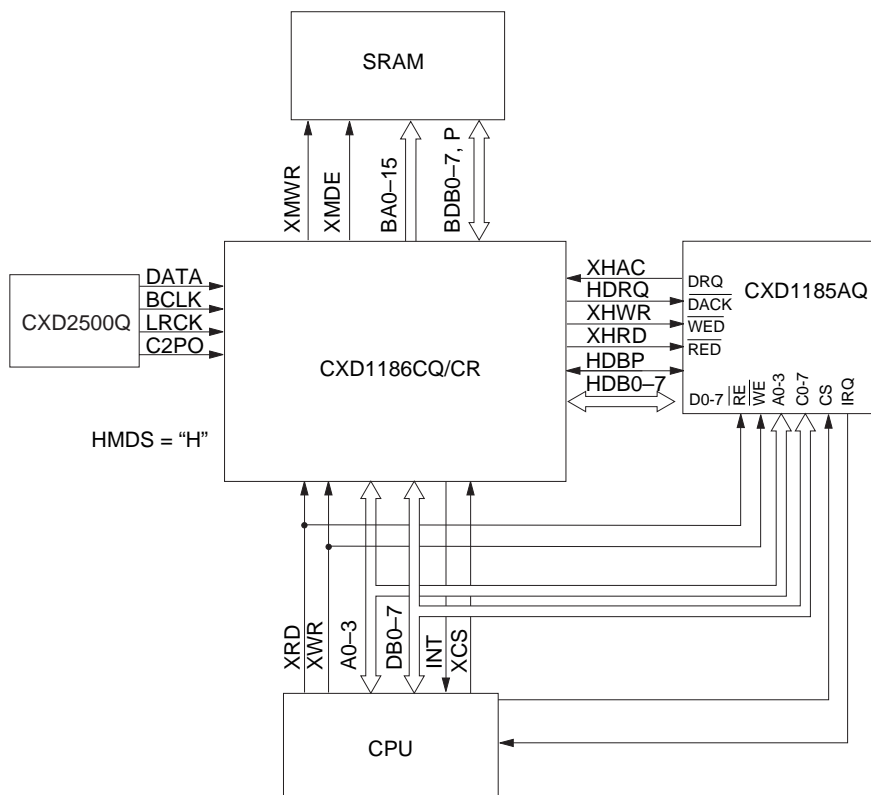

Fig. 4.3.2 CXD1186CQ/CR connection (connecting method 2 with SCSI control IC)
- An example for the connection of this IC to an SCSI control IC where CPU and DMA buses are separated (ex. CXD1185AQ) is shown in Fig. 4.3.2.